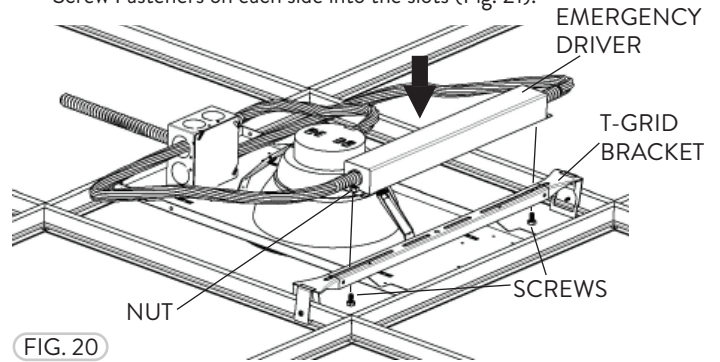
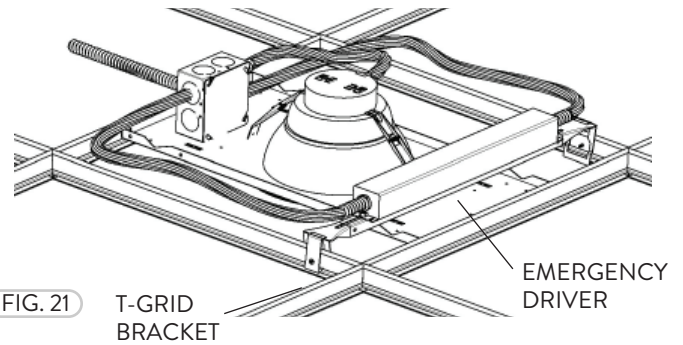

FIG. 20
FIG. 21
② The Optional Emergency Driver is for all the FDLA models. Prior to installation, shut power OFF to the fixture. Place the Emergency Driver on the T-Grid Bracket's slots at the desired location (Fig. 20). Screw Fasteners on each side into the slots (Fig. 21).